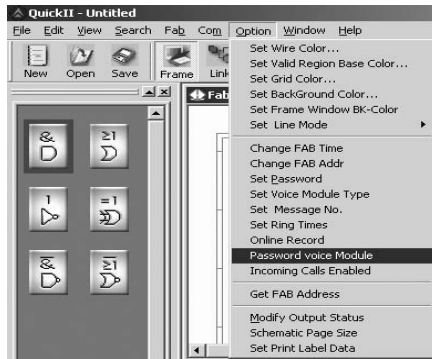

Fig. 5.7-1
1) First connect FAB to a PC, and then click “Option →Password Voice Module” , as shown in Fig. 5.7-1.